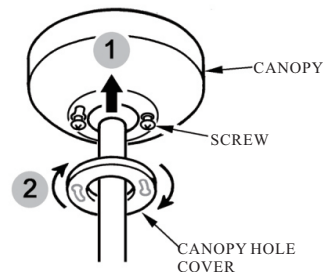

FIG.10
5. Place the canopy hole cover over the screws and twist the cover to tighten. (see Fig.10)